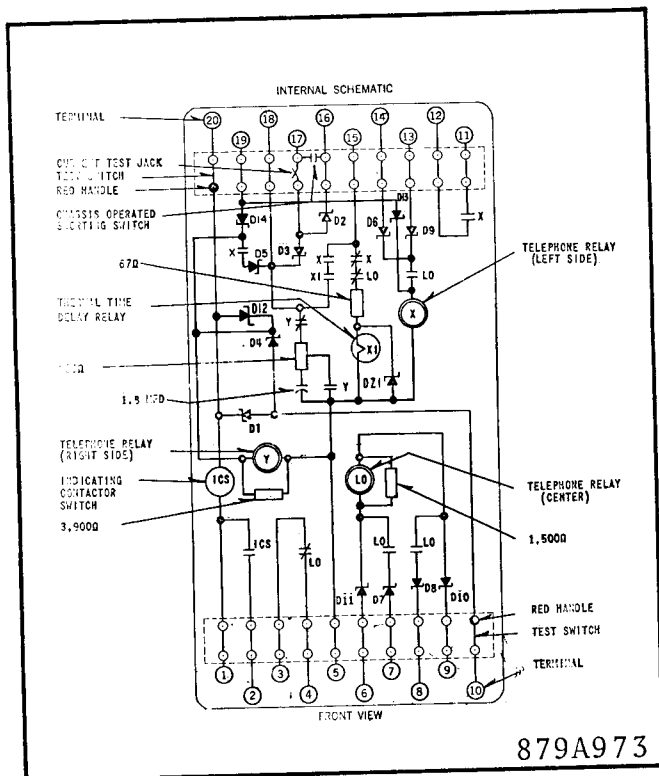
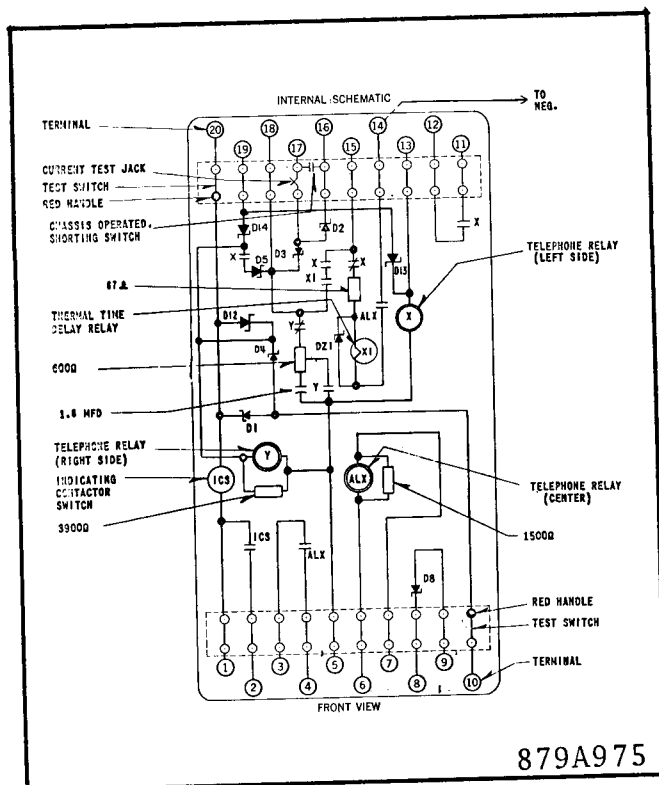

Fig. 3. Internal Schematic 48 VDC Universal TT-12 Relay in the Type FT22 Case
Fig. 5. Internal Schematic 48 VDC TT-12 Relay for TCF Carrier & DIT-1 Tones in the Type FT22 Case
Use the following procedure for calibrating the relay, if the relay has been taken apart for repairs or if the adjustments have been disturbed. This procedure should not be used unless it is apparent that the relay is not in proper working order. Refer to figures 3, 4, 5 and 6.
The Y unit is located at the right front and is energized between terminals 5 and 19. For contact circuitry, see Figure 3, 4, 5 and 6. The normally closed contact should open in 1.5 cycles at rated voltage. This adjustment is controlled by the Y unit resistor which is located at the lower left front. The approximate setting of the resistor is 5000 ohms for the 125 volt relays and 13,000 ohms for 250 volt relays. The 48 volt relays do not use a calibrating resistor.
The LO unit is located at the upper center (FV) and is energized between terminals 6 and 9 for Fig. 3 & 4 or between terminals 6 & 7 for Fig. 5 and 6. Its adjusting resistor is located at the rear. See Figures 3, 4 and 5 for contact circuitry. The closing time should be approximately one cycle at rated voltage. The approximate setting of the adjusting resistor is 1300 ohms for the 125 volt relays and 3,400 ohms for 250 volt relays. The 48 volt relays do not use a calibrating resistor. The operating time for a variation of 85% and 115% of rated voltage is between 10 and 27 milliseconds. If necessary adjustment to achieve timing may be made using adjusting resistor.
The X1 unit is located at the lower center (FV) and is energized between terminals 5 and 15 for Fig. 3 with the X and L units de-energized. The X1 unit should have a dropout time of  $2.5 \pm 1$  second, after being energized for 10 seconds. This time is measured at terminals 15 and 18, keeping in mind that the break contact of the X unit will have to be jumpered. Adjust the timing if necessary, by means of adjusting a screw accessible from the top of the unit. To increase dropout time turn the screw slightly clockwise, and to decrease dropout time turn the screw slightly counter-clockwise.